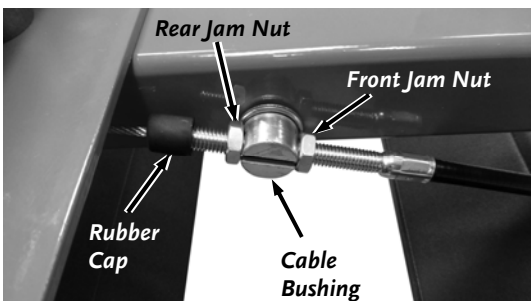

Figure 25
33. Reinstall the Jam Nut and secure the Cable to the Bushing by tightening the two Jam Nuts against the Bushing using two 1/2" Wrenches (**Figure 25**).